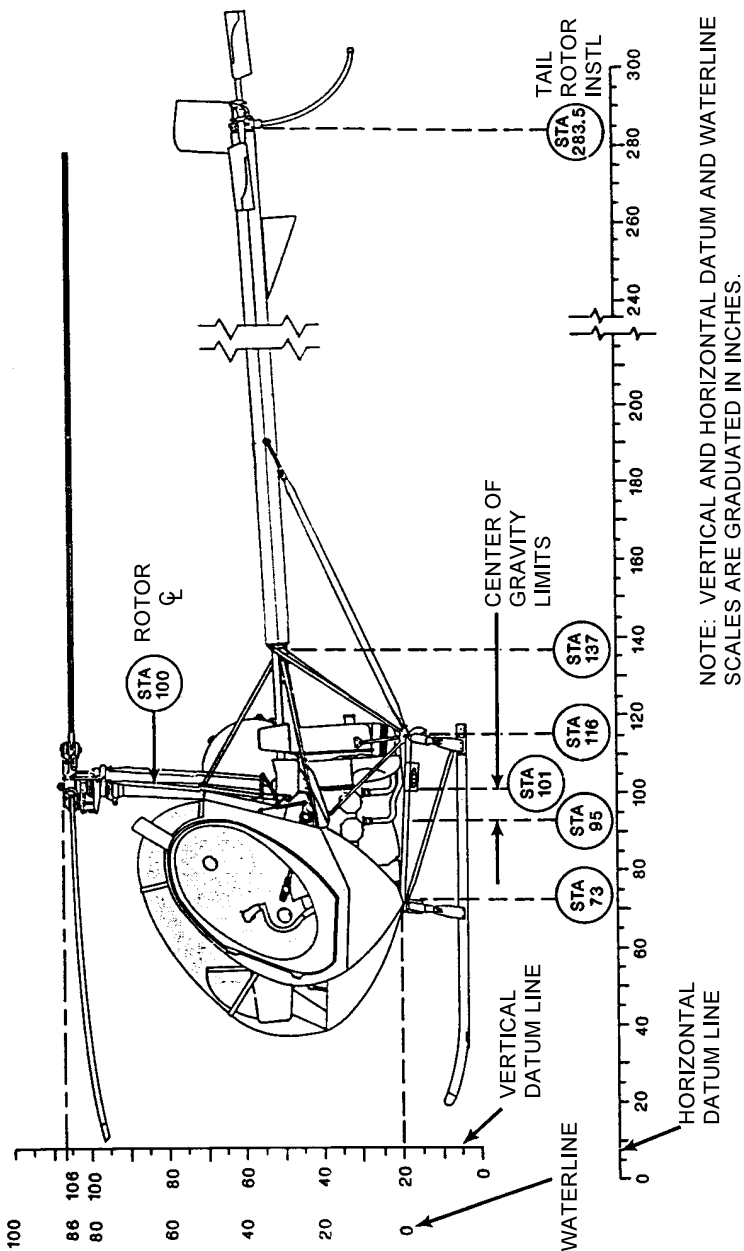

Figure 6-1. Station Diagram
- d. Plot on Figure 6-1 of the Basic Flight Manual with associated longitudinal CG.
Note: The determined lateral CGs of +0.4 inch and +1.4 inch for longitudinal CGs of 95.1 inch and 95.9 inch fall within the established CG limits. (Reference Figure 6-1 of the Basic Flight Manual and Example I.)